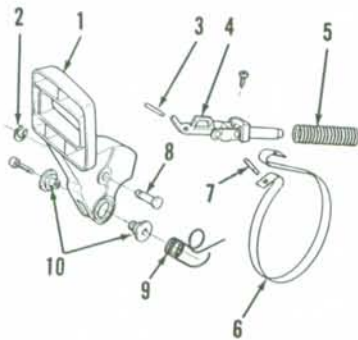

Fig. H48A—Exploded view of latest style chain brake mechanism used on some models.
CHAIN BRAKE. Some models may be equipped with a chain brake system designed to stop chain movement should kickback occur. Several types of chain brake systems have been used. Refer to Fig. H47, Fig. H48 and Fig. H48A for exploded views of different styles of brake mechanisms used.
The chain brake is activated either by the operator's hand striking the hand guard (1) or by sufficient force being applied to the guide bar tip during kickback to cause the front handle to contact trigger lever (6—Fig. H47) on early models, trigger button (9—Fig. H48) or trigger assembly (4—Fig. H48A) on later models, resulting in automatic activation of brake mechanism.
No adjustment is required for chain brake shown in Fig. H48A.